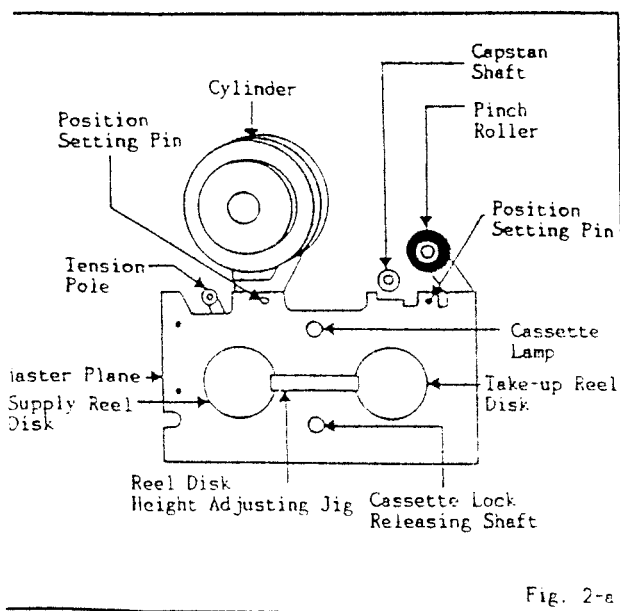

Fig. 2-a
2. Confirm that the master plane (JG022) sits between A and B, as shown in Fig. 2-b, using the reel table height chip (JG024). In case it is beyond the range of set-up value, adjust it by the height adjusting washer, making up-down play within 0.1~0.5mm.